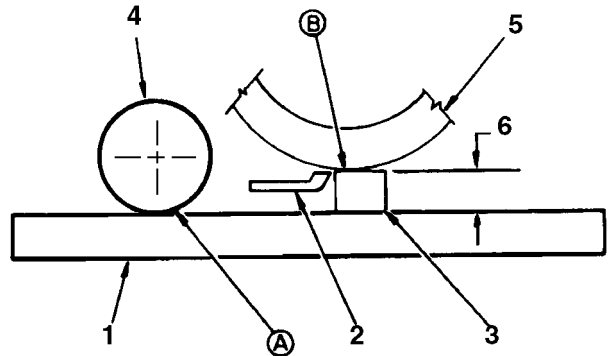

**Figure 3**
- Start the engine and lower the cutting units onto a flat surface such as a piece of 2.5 cm plywood (at least 50 cm x 70 cm in size). Stop the engine and remove the key from the switch. Lock the cutting units in the fixed position by loosening the jam nut on lockout pin (Fig. 2) and screwing the pin into the hole in pivot arm (Fig. 3). Tighten the nut. Raise the front rollers up so they do not contact the flat surface.